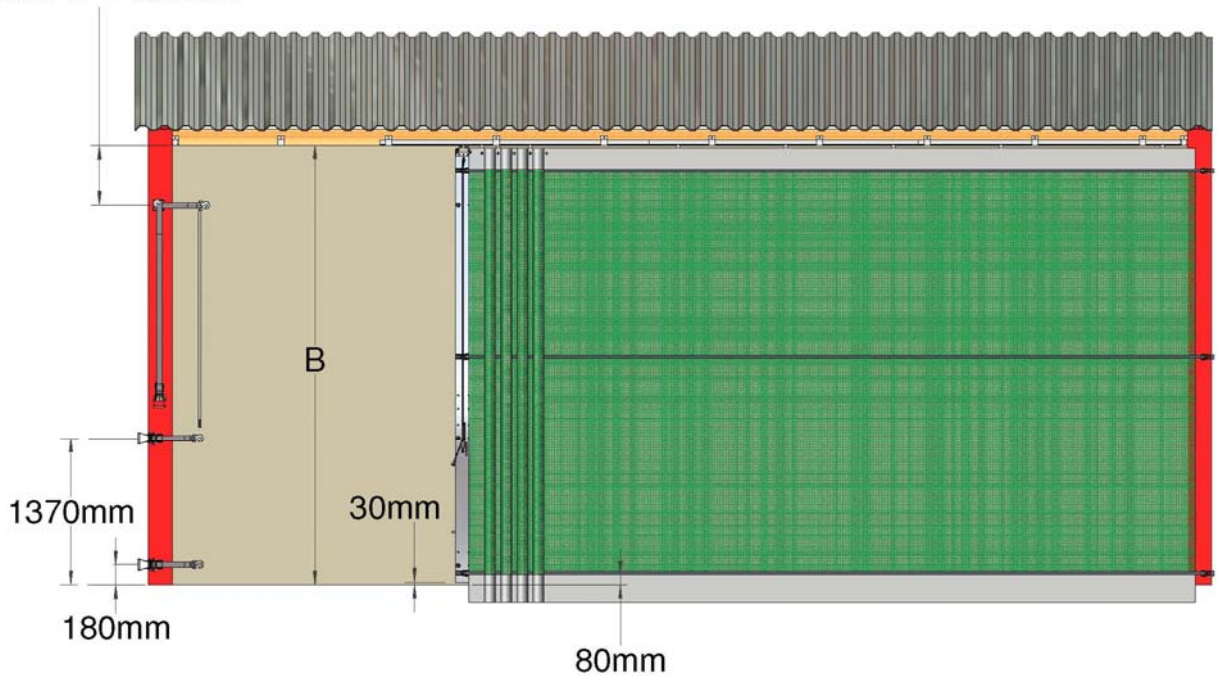
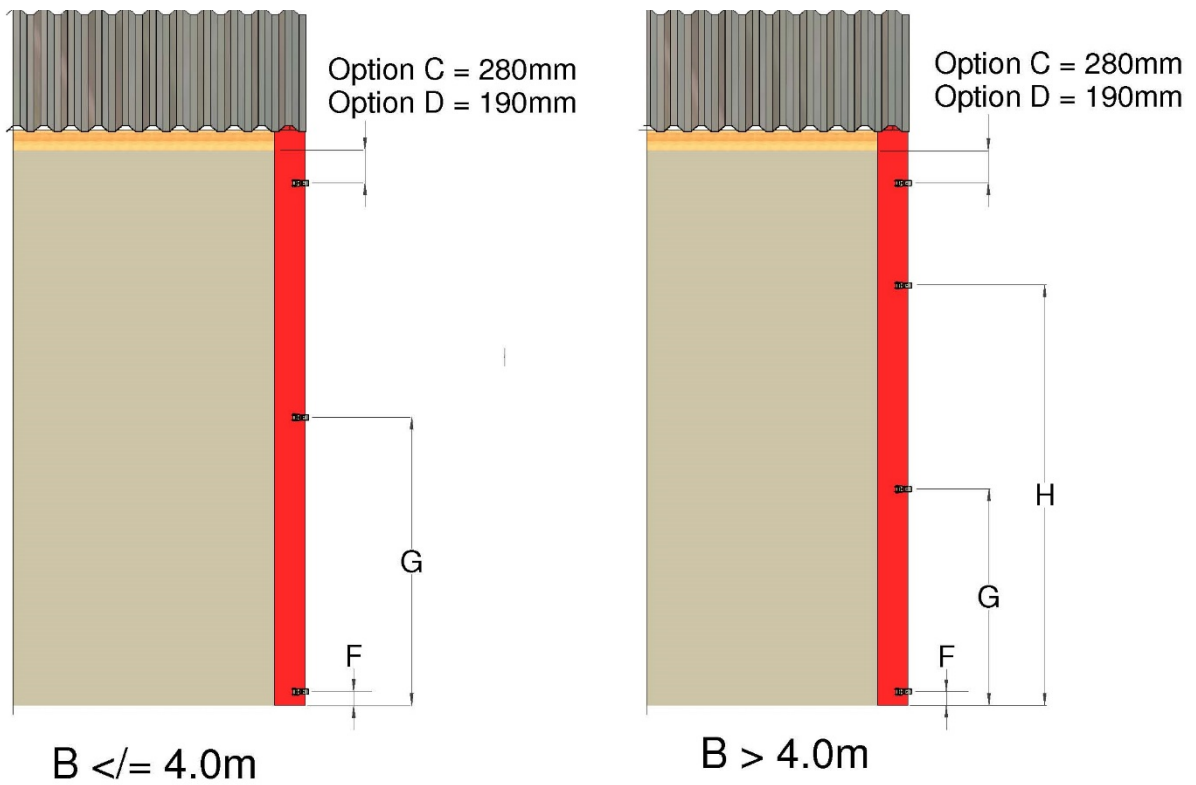
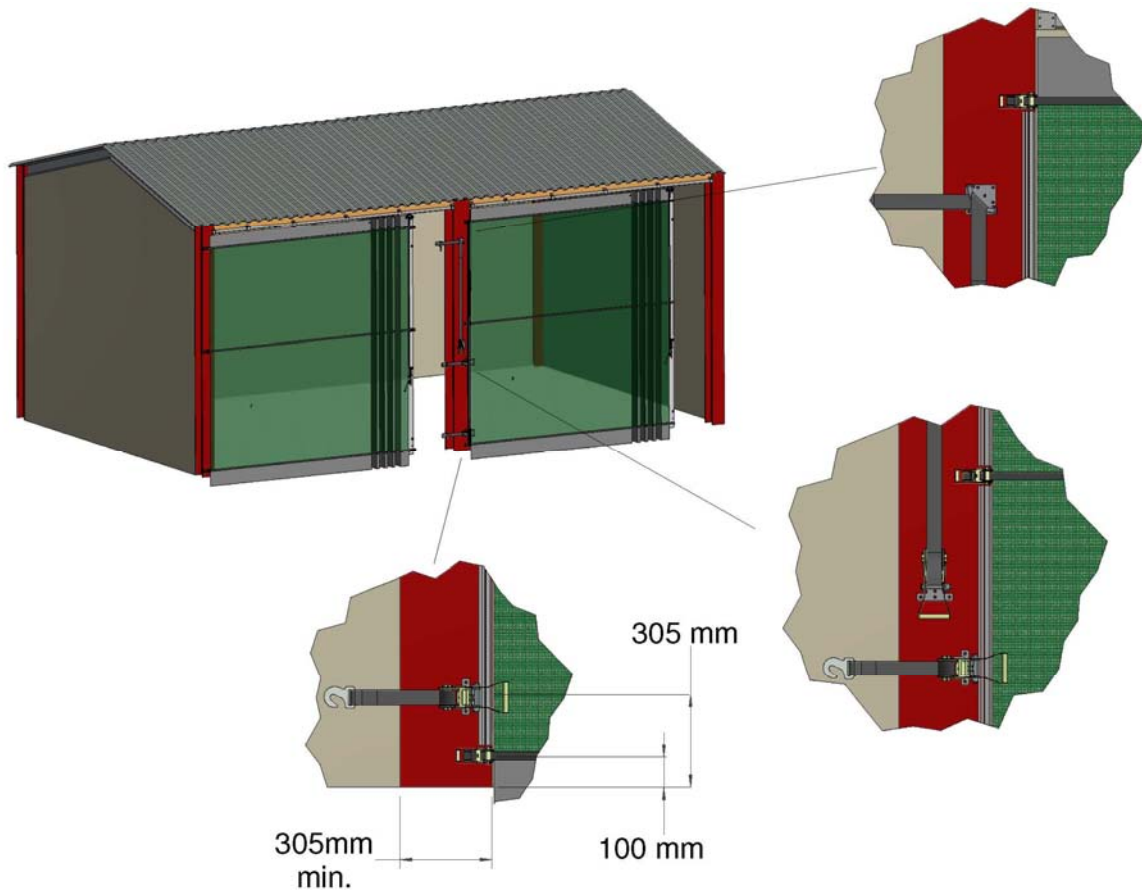

Figure 3a, 50mm Ratchet Positions $B > 3.0m$
Figure 5, Fixed End Ratchet Positions
Figure 9, Double Trackscreen – Consecutive Fix
Figure 3a shows the positions of the tensioning ratchets and corner plate for screens with B greater than 3.0m.
Figure 5 with Table 2 gives the positions of the fixed end ratchets on the building upright. The upright must be clear of any obstructions over the full height to allow the fitting of the screen windseal.
7.1.1 Both posts close against the central upright, the positions of the post tensioning ratchets for the right hand screen is given in Figures 3a and 3b. The positions of the lower ratchets for the left hand screen are 125mm above the right hand ratchets.
7.2.1 Both screens are fixed to the central upright and close against the outer uprights. The positions of the fixed end ratchets are as given in Figure 5.
7.3.1 Both screens open in the same direction from Left to Right or vice versa (Figure 9). The fixed end ratchets are positioned as in Figure 5. The lower post tensioning ratchets are positioned 125mm higher than that shown in Figures 3a and 3b.